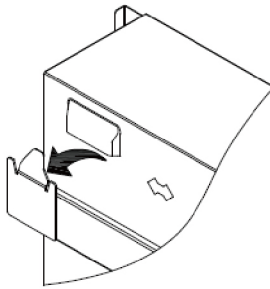

Fig.3
- Carefully lift the heater up ensuring that the two top rear slots of heater engages the wall bracket (see Fig.3) and is sitting centrally.